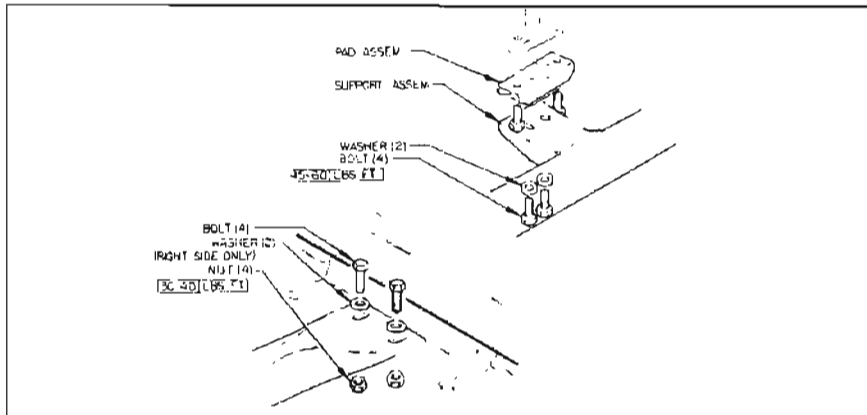

Figure 4-42—Transmission Mounting
9. Remove two bolts attaching transmission mounting pad to transmission support. Leave mounting pad bolted to transmission. See Figure 4-42.